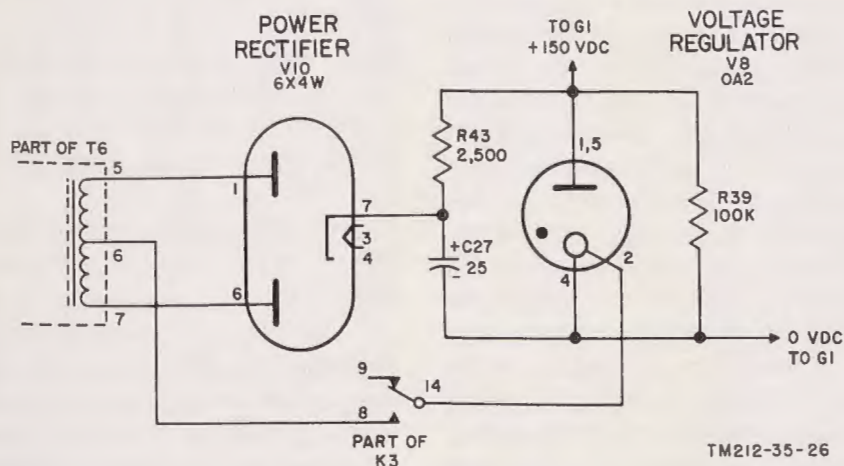

Figure 26. Generator power supply, 20-cps.
d. 20-cycle Ringer Power Supply (fig. 26). Energizing of ringing transfer relay K3 connects the cathode circuit of tube V8 through contacts 8-14 of relay K3 to the center tap of the power supply winding of transformer T6. The ac voltage from transformer T6 is rectified by tube V10 and fed through an L-section filter circuit comprised of capacitor C27 and resistor R43 to voltage regulator tube V8. Resistor R43 also acts as a current-limiting